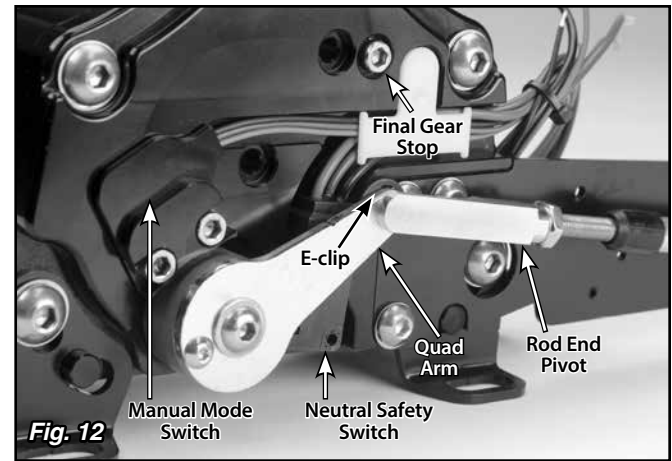
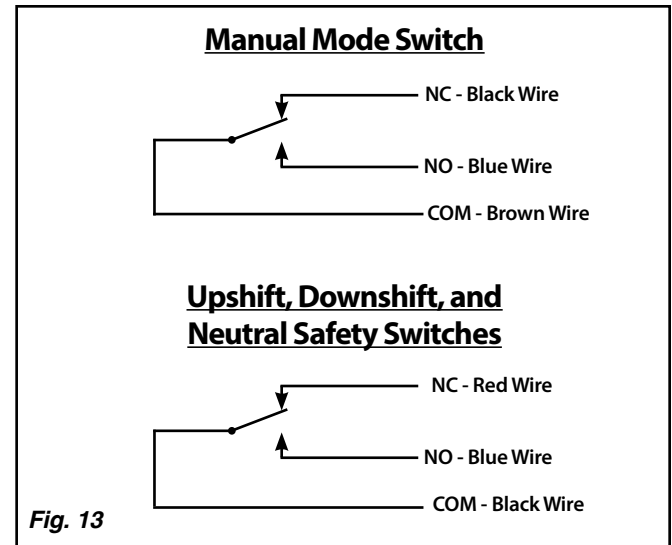

Fig. 12
Fig. 13
Step 17: Adjust the position of the rod end pivot on the end of the cable so the stud on the rod end pivot lines up with the hole in the quad arm on the Shifter. Push the stud through the hole and install the 3/16" E-clip into the groove on the stud. **Fig. 12**
To eliminate the final gear stop, remove the Final Gear Stop bolt shown in **Fig. 12** on the driver side of the Shifter, using a 5/32" Allen wrench.
The Manual Mode switch is on the driver side of the Shifter as shown in **Fig. 12**. The black wire is connected to the normally closed (NC) terminal. The blue wire is connected to the normally open (NO) terminal. The brown wire is connected to the common (COM) terminal. **Fig. 13** Manual Mode is activated by pushing the shifter lever to the passenger side when the shifter lever is in either Drive (Position 1) or Sport Mode (Position 2). The Manual Mode switch will then provide continuity between the brown wire and the blue wire. Pushing the lever back to the driver side turns Manual Mode off.
The upshift, downshift, and neutral safety switches are identical to each other. Each switch has black, blue, and red wires. The red wire is connected to the normally closed (NC) terminal. The blue wire is connected to the normally open (NO) terminal. The black wire is connected to the common (COM) terminal. **Fig. 13**